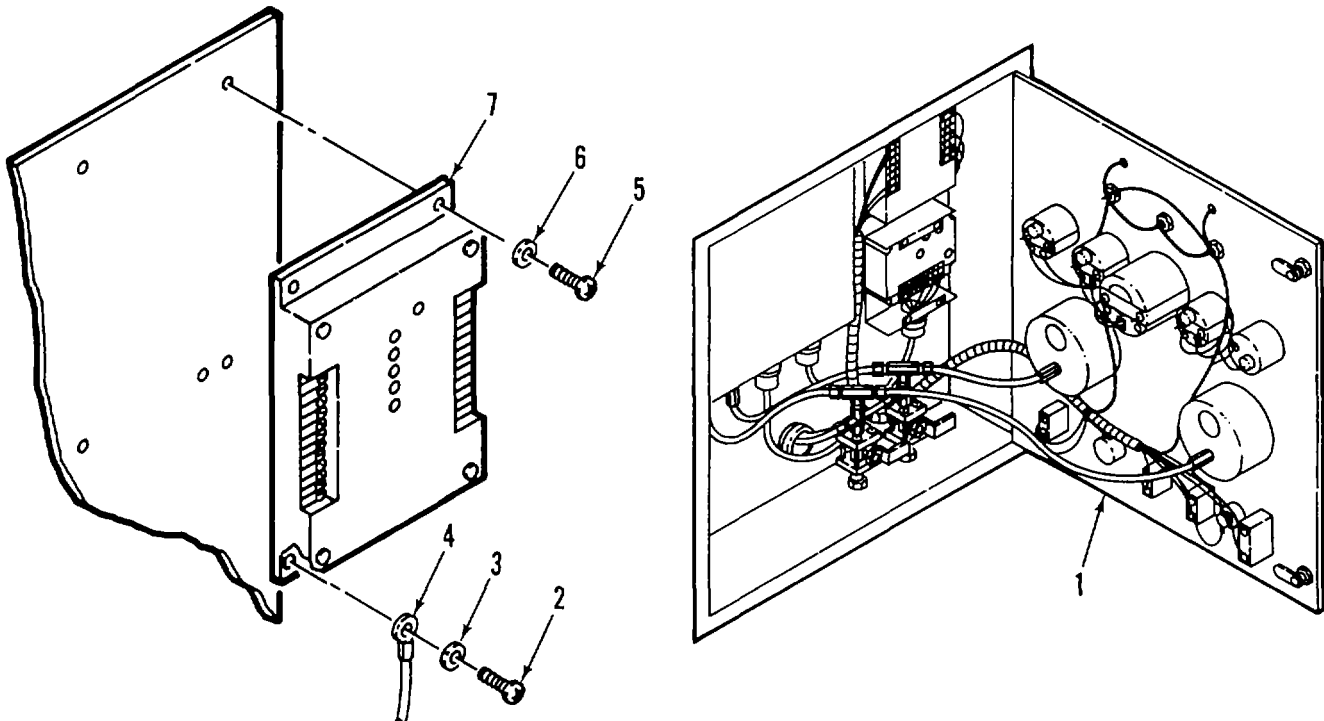

Figure 2-15. Engine Protection System Module
a. REMOVE. (Figure 2-15)
- (1) Open control panel door (1).